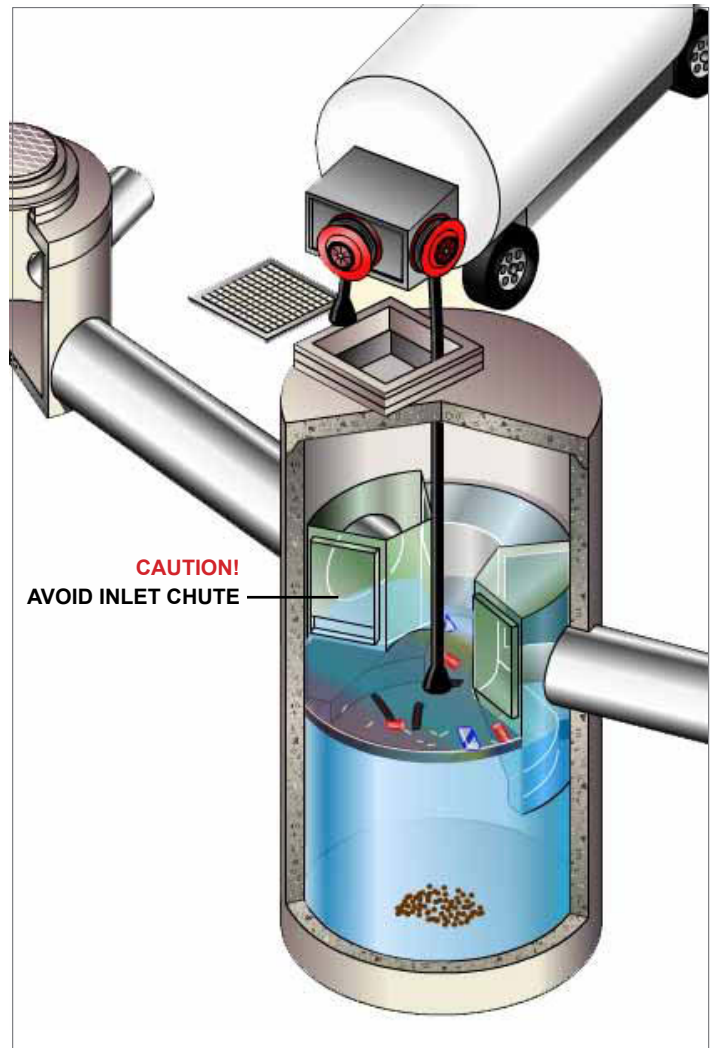

Fig.2 Floatables are removed with a vector hose.
3. Without entering the vessel, look down into the chamber to inspect the inside. Make note of any irregularities. Fig.2 shows the standing water level that should be observed.
Floatables cleanout is typically done in conjunction with sediment removal. A commercially or municipally owned sump-vac is used to remove captured sediment and floatables (Fig.2).
4. Remove oil and floatables stored on the surface of the water with the vactor hose (Fig.2) or with the skimmer or net (not pictured).